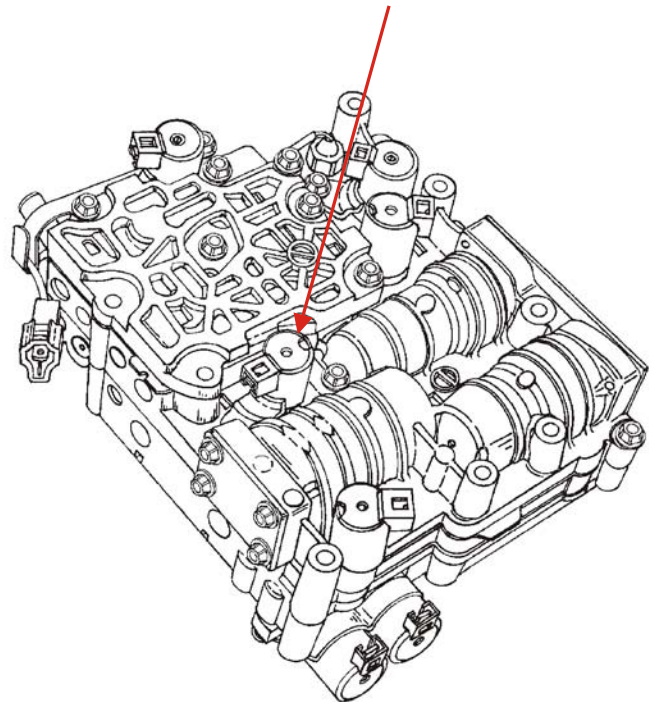

Figure 4
3. Apply air pressure to the 1-2 shift solenoid, as shown in Figure 4, and ensure that there is **no** leakage when there is no voltage applied to the solenoid, replace if necessary. **NOTE: It may be necessary to apply 12 volts to the solenoid several times to ensure that the solenoid is closing every time the voltage is removed.** Inspect the O-ring on the solenoid and replace if necessary.